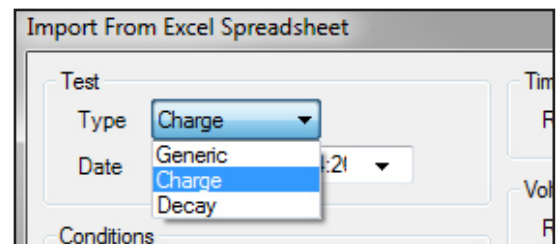

Figure 59: Test Type Window
4. Select the Test Type from the drop down "Type" window (Figure 59). Once imported, the PGA-710B Session Wizard will respond to the type designation.